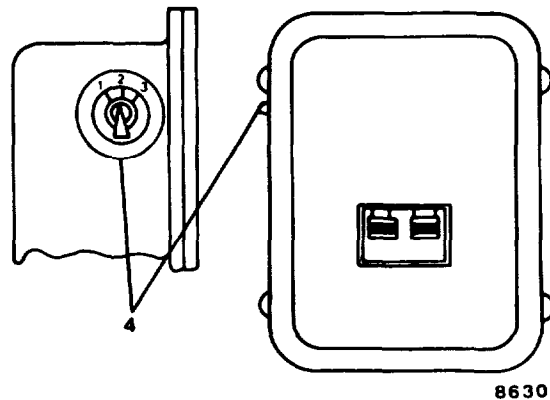

FIGURE 2-34. Timer Enclosure.
c. Set horn rotary switch to OFF (2).
e. Set rotary switch (1, FIGURE 2-34) on sequential timer to position 1.
- f. Set horn rotary switch to AUTO position (1, FIGURE 2-34).
- h. Set rotary switch (1, FIGURE 2-34) to position 2 and compare horn response to that code set in for position 2.
- i. Set rotary switch (1, FIGURE 2-34) to position 3 and compare horn response to that code set in for position 3.